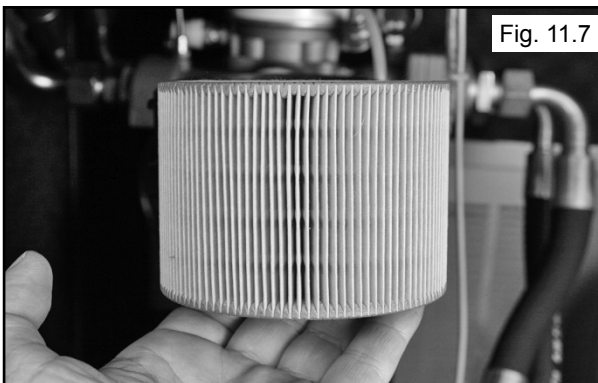

Fig. 11.7
3. Check the condition of intake filter, either blow it clean with compressed air or replace if necessary. (See Fig. 11.7)